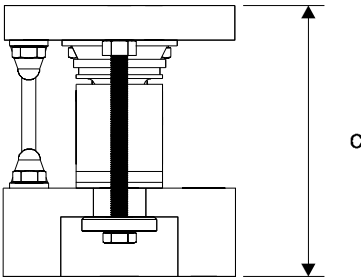
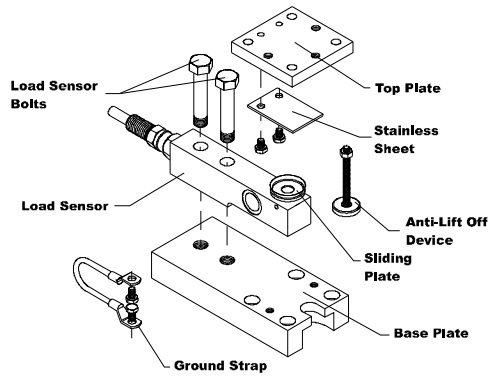

FIG. 11: HEIGHT DIMENSION C
FIG. 14: EXPLODED ISO VIEW OF FREE SLIDING LOAD POINT ASSEMBLY
- If you want to use fasteners to fasten the top plate to the support bracket, use a marker or scribe and trace the thru hole pattern of the top plate on the support bracket. Drill four (4) thru holes or drill and tap four (4) holes for the fasteners. Install the top plate to the support bracket using the four (4) fasteners.
Step 5. With the top plates installed, put the vessel support bracket with the top plate onto the pins of the load cells. Make sure that the sliding load cell pins are riding on the stainless plate. Make sure that the fixed pin is centered in the top plate housing. The horizontal position is not critical but the vertical position is. Use the C dimensions to determine the proper height between the support surface and the top of the top plate. (See Fig. 11)
- Step 1. Use a box end wrench to loosen the nut that fastens the Anti-Lift Off Device to the top plate. Remove the Anti-Lift Off Device. (See Fig. 14)
- Step 4. Use a box end or crescent wrench to remove the two (2) load sensor bolts that fasten the Load Sensor to the base plate. (See Figs. 14 or 15)
- Step 8. Screw the two (2) Load Cell Bolts into the base plate until they are finger tight only.
- Step 9. Check the height (B) dimension as measured between the bottom of the base plate and the top of the load sensor, before tightening the Load Cell Bolts with a torque wrench. (See Fig. 14 & Table 3)
- Use a box end wrench and remove the two (2) hex machine screws that fasten the stainless plate to the top plate. (See Fig. 14)
- Use a box end wrench and replace the two (2) hex machine screws.
- Reinstall the ground strap and anti-lift off device. (See Figs. 11 & 13)